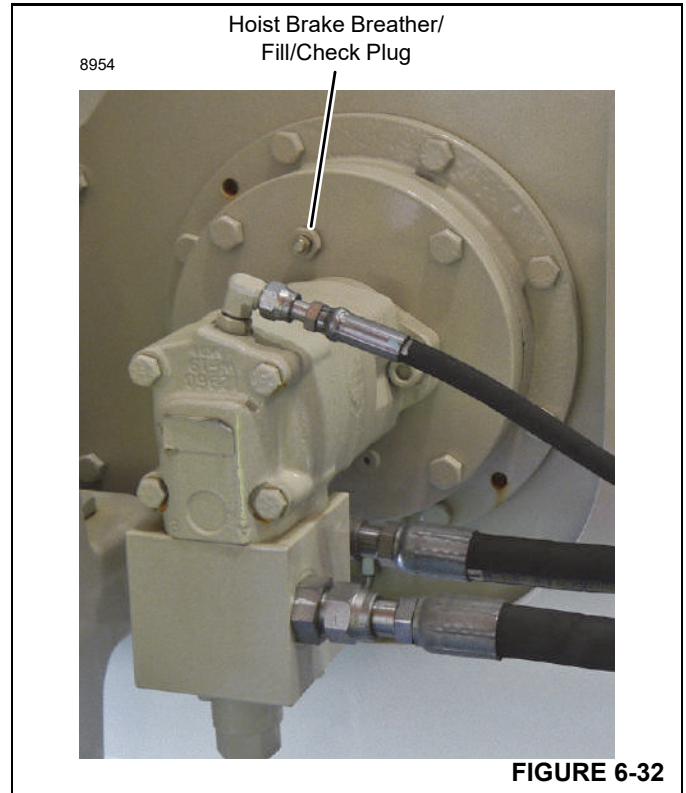

FIGURE 6-32
- a. Clean the around of the brake breather/check/fill plug (Figure 6-32) and remove it.